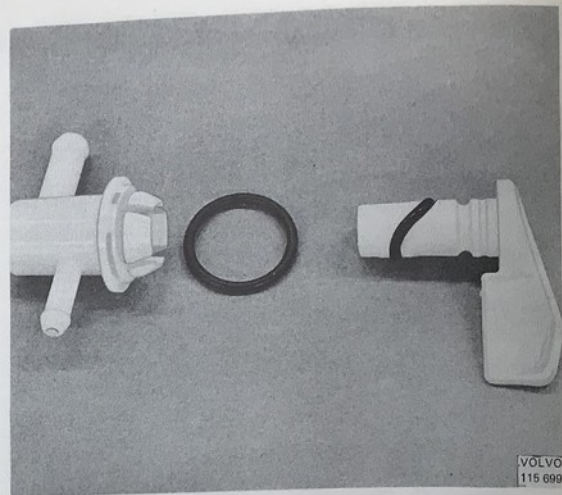

Fig. 92-19. Control switch and valve
2. Replace the O-ring, see Fig. 92-19, on the switch and grease it.